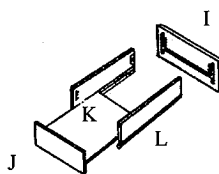

Figure 8
7. Drawer assembly (Figure 8): place the drawer-face (A) face down on a flat soft working surface. Align the two drawer sides (L) and lock the cam lock. Slide drawer bottom (K) into the grooves of drawer sides (L). Then place drawer back (J) and lock the cam lock. Repeat this step for more drawers.